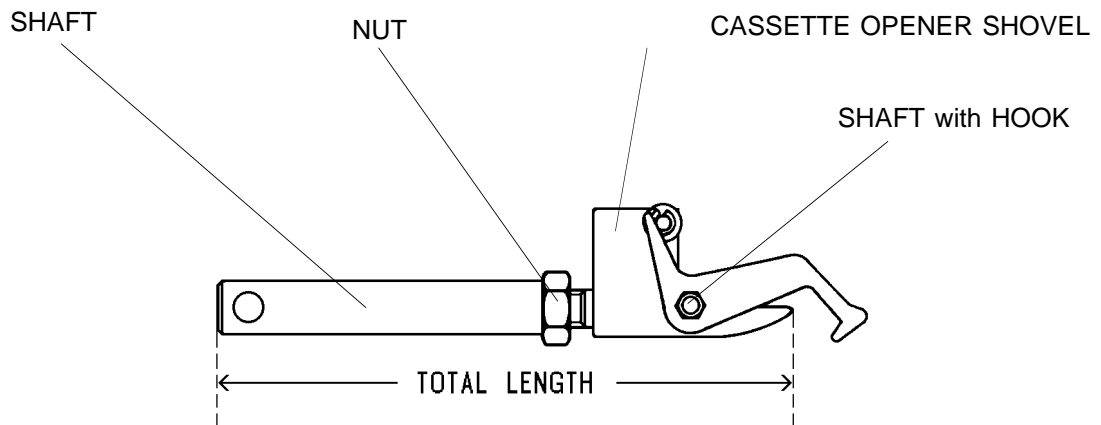

figure 2
- 4.** Measure and record the TOTAL LENGTH of CASSETTE OPENER. See figure 2.
- 5.** Loosen NUT on CASSETTE OPENER. See figure 2.
- 6.** Remove SHAFT with HOOK from the CASSETTE OPENER SHOVEL. See figure 2.
11. Check that both TIPS of CASSETTE OPENER SHOVEL are parallel to the BELT. For adjustment loosen NUT on CASSETTE OPENER. See figure 2 and 3.